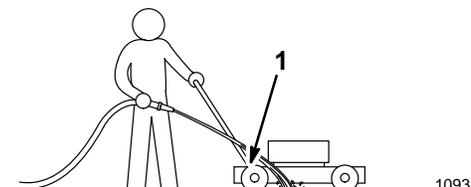

Figure 27
3. Hold the running garden hose at handle level and direct the water to flow on the ground just in front of the right rear tire (Fig. 27).